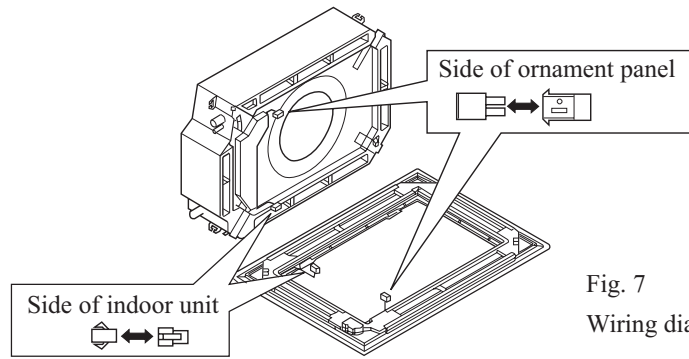

Fig. 7
(4) Wiring of ornament panel
f.Connect the wiring of swing flap moter on the ornament panel(Refer to Fig.7)